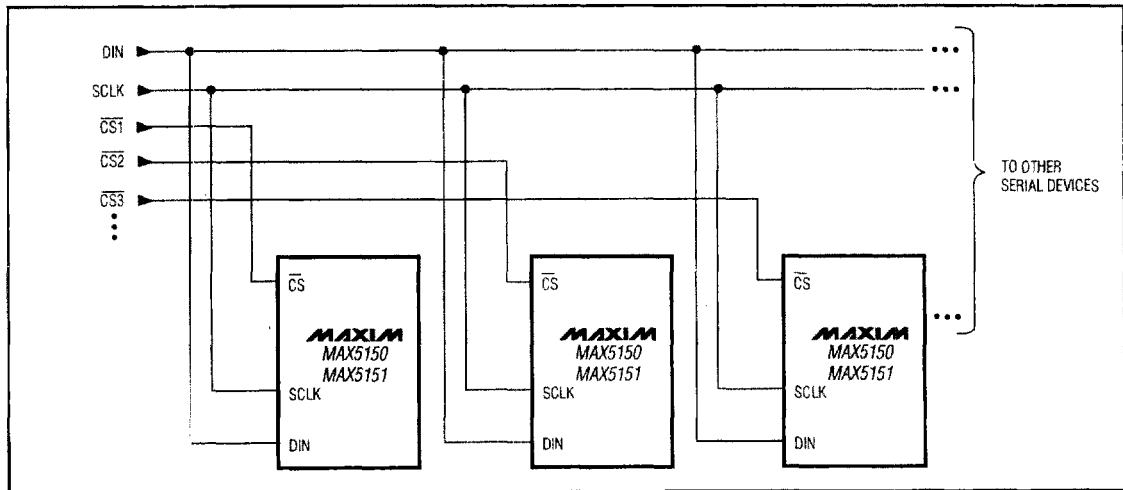

Figure 8. Multiple MAX5150/MAX5151s Sharing a Common DIN Line
Figure 8 shows an alternate method of connecting several MAX5150/MAX5151s. In this configuration, the data bus is common to all devices; data is not shifted through a daisy chain. More I/O lines are required in this configuration because a dedicated chip-select input (CS) is required for each IC.